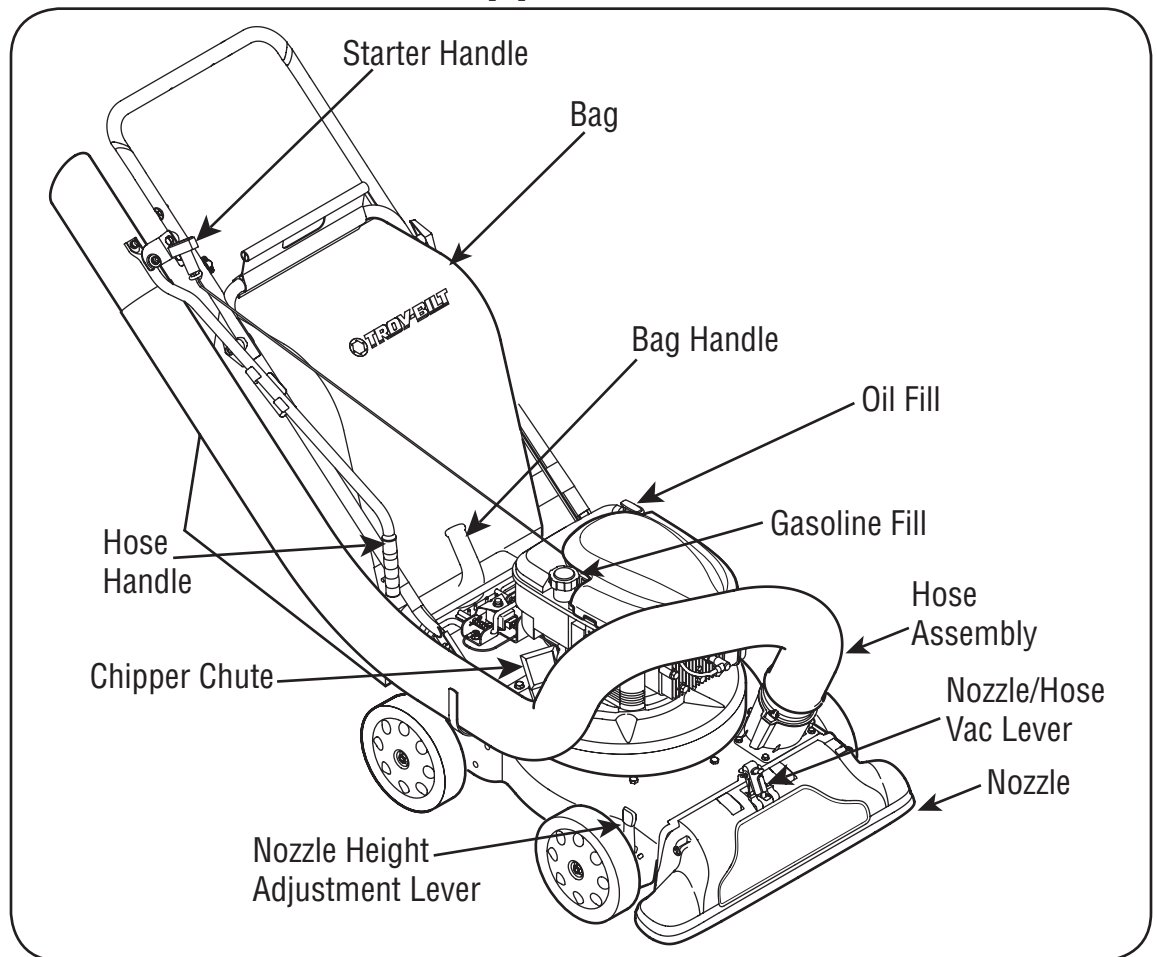

Figure 4-1
Allows twigs and small branches up to 1-1/2" in diameter to be fed into the impeller for chipping. See Figure 4-1.
Used as an alternative to the nozzle to vacuum yard waste such as leaves or pine needles in hard to reach places. See Figure 4-1.
Used to grasp bag in order to assist in attaching, removing, and emptying bag. See Figure 4-1.
The starter handle is attached to the right upper handle. Stand behind unit and pull the starter handle to start engine. See Figure 4-1.
1. Check oil level and add oil if necessary. Follow engine manual for this. See Figure 4-1 for location of the oil fill.
2. Service the engine with gasoline as instructed in the engine manual. See Figure 4-1 for location of gas fill.